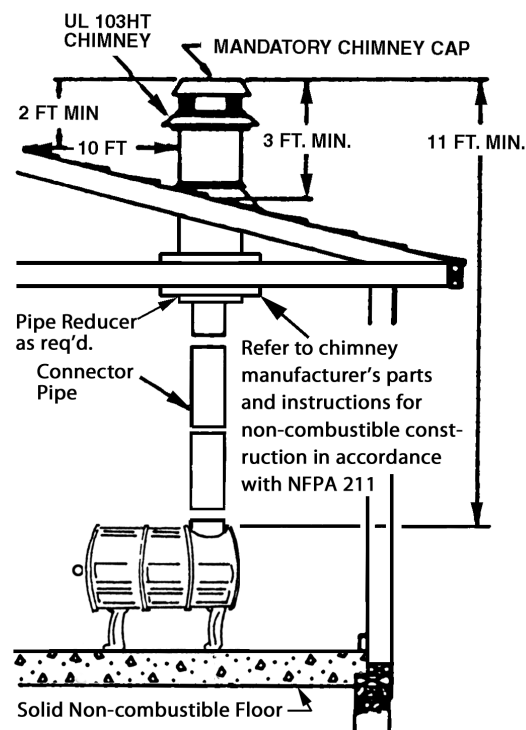

Fig. 8 - Chimney Construction Through Attic Space
**DRAFT: Your stove itself does not create draft. Draft is provided by the chimney.** To achieve proper draft your chimney must meet the three minimum height requirements detailed in figures 8–11. A minimum of 0.05 w.c. (measured in water column) is required for proper drafting to prevent back puffing, smoke spillage, and to maximize performance. Draft must not exceed 0.06 w.c. or unsafe operating conditions may occur. A barometric draft regulator must be installed if draft exceeds 0.06 w.c. (Gauges to measure draft are readily available at stove stores and are economical to rent or purchase.)
2. Install a fire clay (5/8" minimum thickness) thimble. Make sure the thimble is flush with the inner surface of the chimney liner and does not protrude into the flue (see figure 8 on page 6).